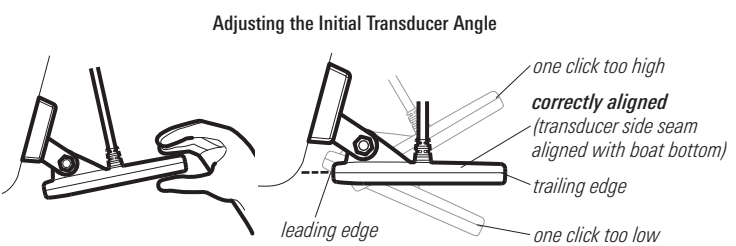

Figure 15
7. Adjust the initial angle of the transducer from back to front by rotating the transducer until the side seam on the transducer is almost parallel with the bottom of the boat, one click at a time in either direction (Figure 15).